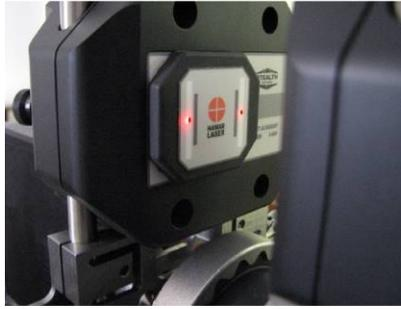

Figure 45 -- Aligning laser beams with S-670 to take uncoupled shaft data in Point Mode using the dust cover/alignment tool.
2. Attach the dust cover / alignment tool to the target. Slowly rotate the target until the laser beams align to the holes on the alignment tool (see **Figure 45**). Support the target and laser so they remain steady.